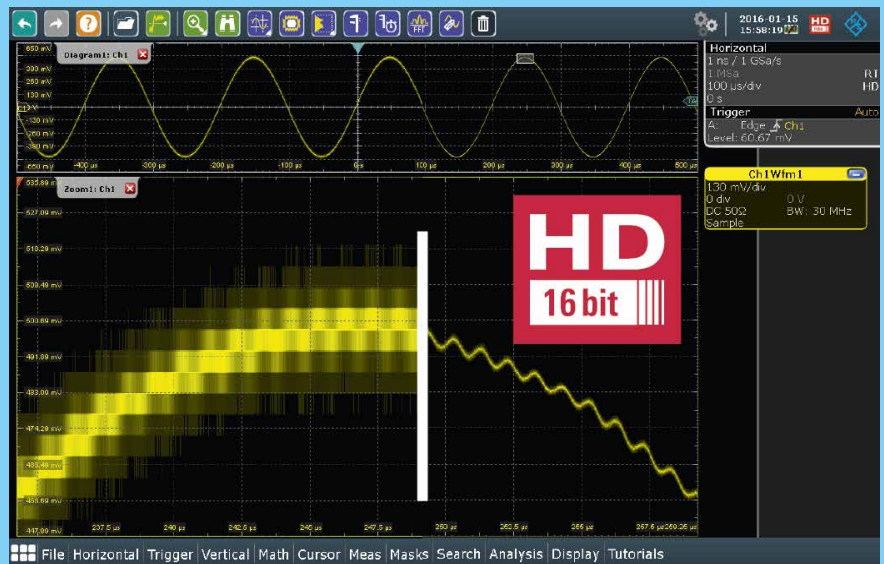

Fig. 4: Zoom of a sine wave with superimposed modulation with 16-bit HD mode turned off and on.
Investigating signal details often requires a higher vertical resolution. The R&S®RTO2000 achieves up to 16 bits in high-definition (HD) mode. In HD mode, high-quality, adjustable lowpass filters downstream of the A/D converter limit the signal bandwidth (Fig. 4). The user can select the appropriate combination of resolution and bandwidth. Even the digital trigger system benefits from the high resolution in HD mode and can trigger on the smallest of signal details.